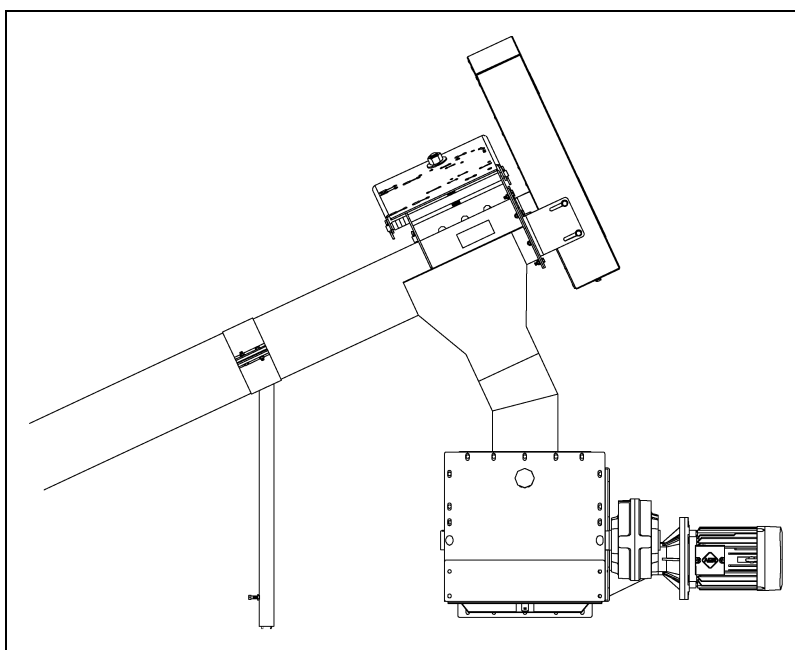

Figure 4L
5. OR connect the outlet direct to other equipment. (See Figure 4L.)